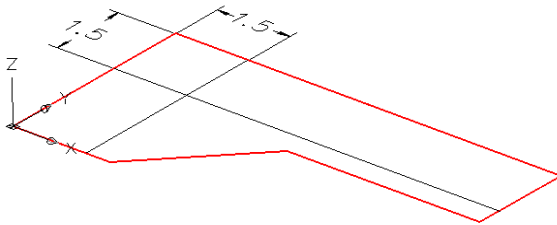

Figure Step 6
Step 6 Using the OFFSET command, offset the two lines 1.5 units as shown in Figure Step 6. Change the layer properties of the two lines to layer Construction.